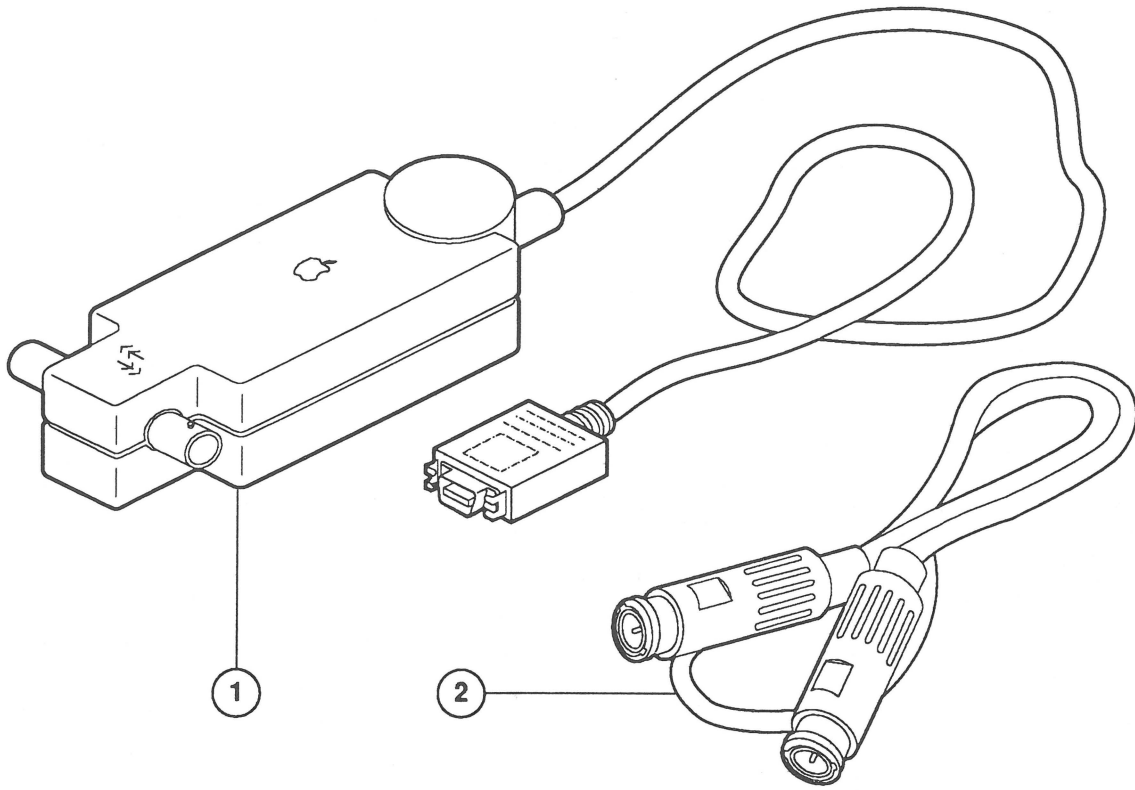

Figure 2 Apple Ethernet Thin Coax Transceiver
(Figure 2)
□ **APPLE ETHERNET THIN COAX TRANSCEIVER (Figure 2)**